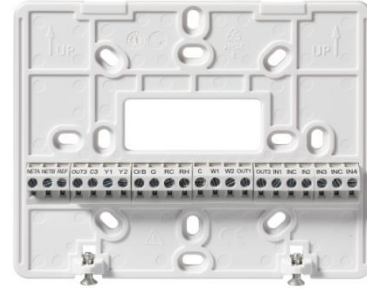

Figure 3. Thermostat Base Plate.
4. Attach the HVAC system wires to appropriate terminals on the thermostat base plate Figure 3.
5. Attach MS/TP wire to NET terminals on left of the thermostat base plate Figure 3.